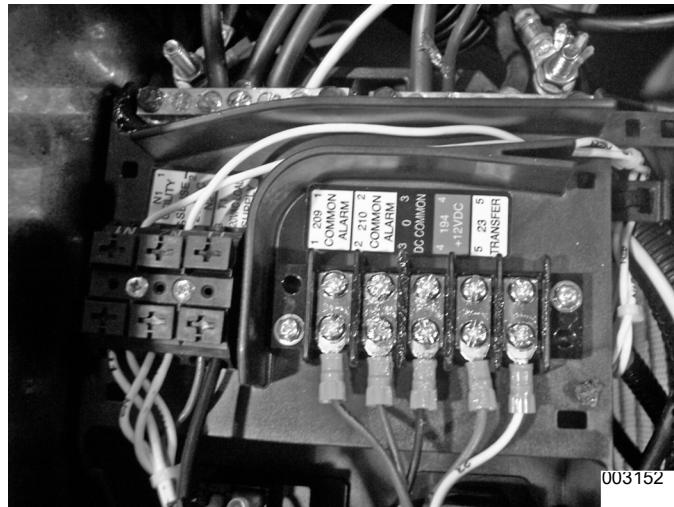

Figure 4-53.
- 21. Remove Controls Cover:** See Figure 4-53. Use a Torx T-27 socket or 5/32" Hex Allen socket to remove two bolts and ground washer from the controls cover. Remove the controls cover.
- 22. Remove Stator Wires:** See Figure 4-53. Remove all connectors from the controller, remove all wires the common neutral and ground wires from landing lugs, and remove wires from main breakers.